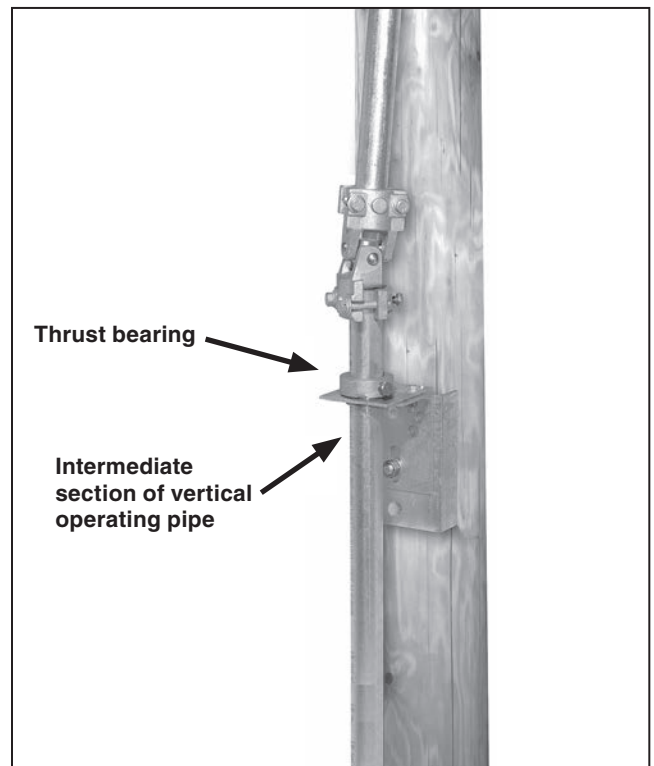

Figure 19. Install the intermediate section of the vertical operating pipe.
STEP 14. Pass the next section of vertical operating pipe up through the guide bearing and then through the thrust bearing. The thrust bearing will rest on the guide bearing and support the operating pipe. See Figure 19 and also Detail G on the erection drawing.